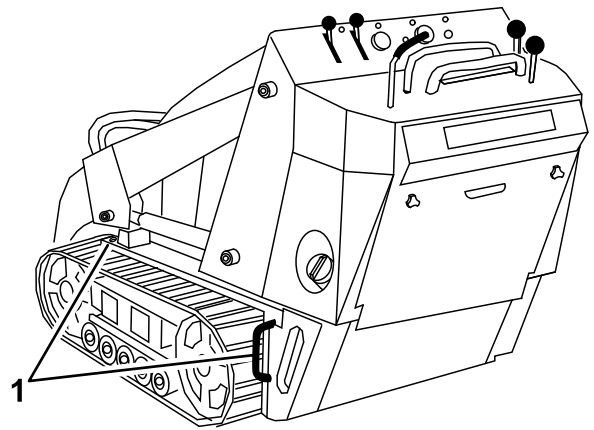

Figure 22
8. Use the metal tie-down loops on the machine to securely fasten the machine to the trailer or truck with straps, chains, cable, or ropes (Figure 22). Refer to local regulations for tie-down requirements.
You can lift the machine using the tie-down/lift loops as lift points; refer to Figure 22.